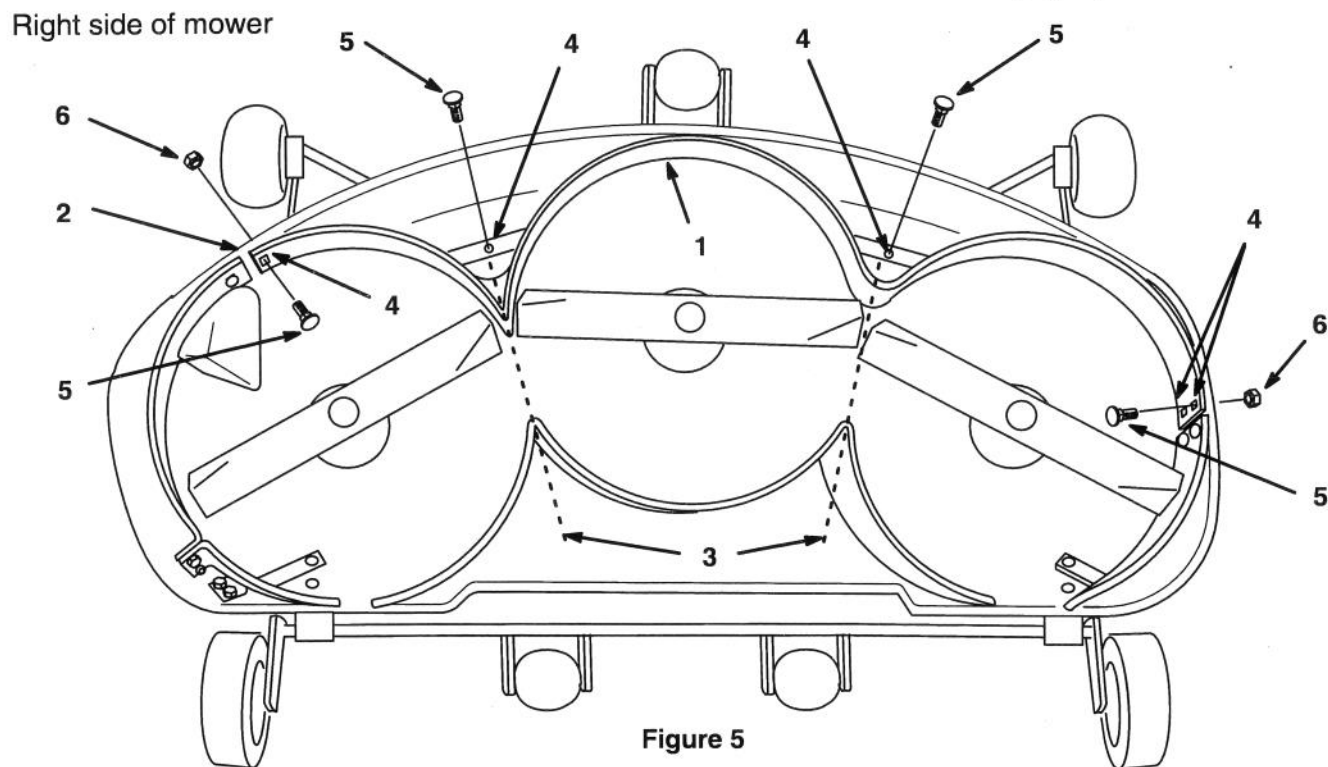

Figure 5
10. Place front baffle inside mower and align with front contour of mower and center lines between blades. Clamp left and right sides (Fig. 5).
11. Using the baffle as a guide, drill (5) 11/32" holes in the mower at the ends and mounting brackets of baffle (Fig. 5).
12. Place 5/16-18 x 1" (26 mm) carriage bolts through baffle, with heads on the inside. Secure with 5/16" locknuts (Fig. 5).